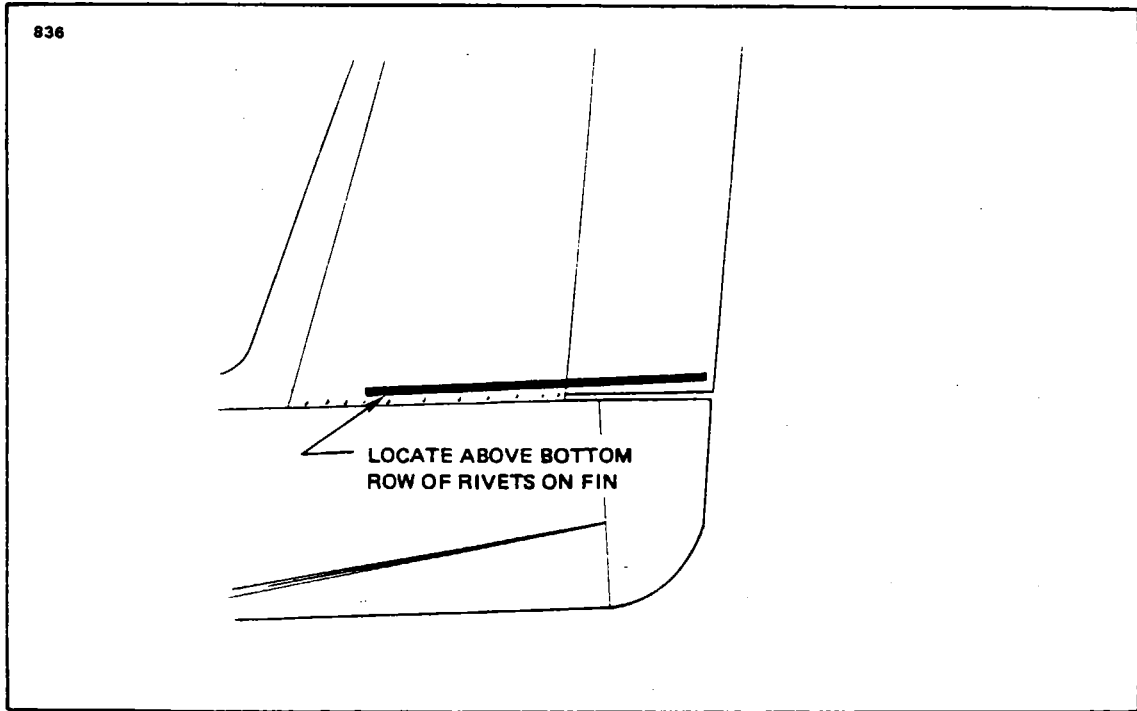

Figure 5-13. Rudder Rigging Tool
2. With the rudder against its stop, place a rigging tool against the side of the rudder and vertical stabilizer as shown in Figure 5-13. (Ascertain that the tool is not contacting any rivets.) If no gap exists between the rigging tool and the surface of the rudder and vertical stabilizer, the rudder stop for one direction of travel is correct as required in Table V-I. (This tool may be fabricated from dimensions given in Figure 5-22.)